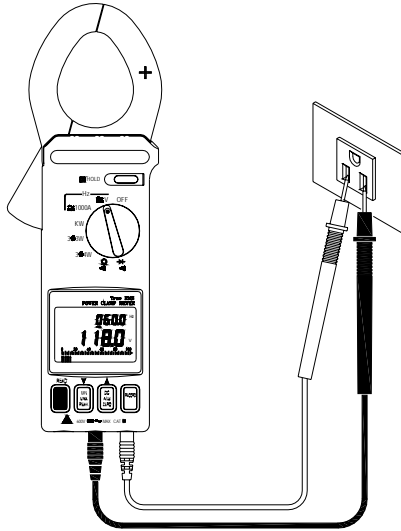

Figure 14
1. Set the rotary switch to the 'V' position (refer to figure 14).